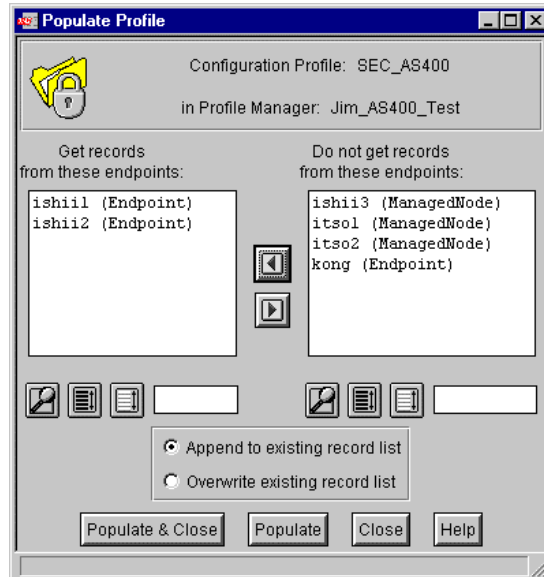

Figure 314. Populating the Security Management database
4. On the Populate Profile screen, select the AS/400s with which you want to populate the Security Management database. In this case, we will select ishii1 and ishii2 as shown in Figure 314.